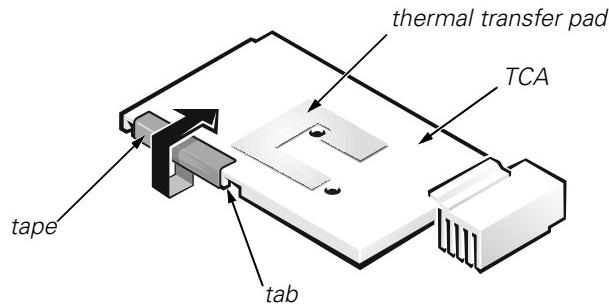

Figure 2. Kapton Tape
Before you install the TCA in the computer, you must attach Kapton tape to the left tab at the front of the TCA (see Figure 2). The tape must be attached so that the entire length of the tab is covered.
2. Wrap the tape under the bottom edge and then up the front of the tab, as shown by the arrow in Figure 2.